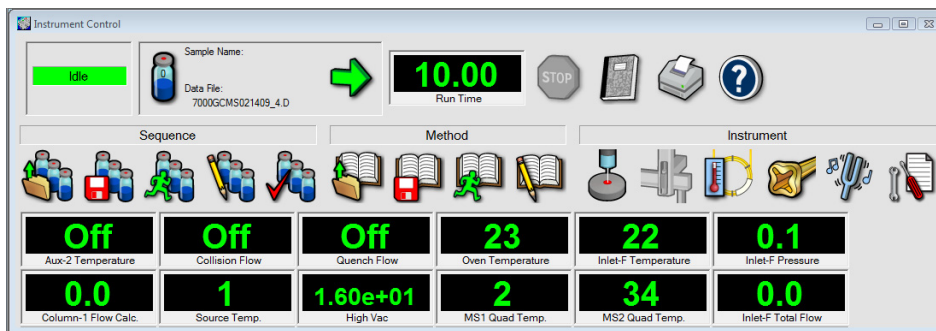

Figure 7 Arranging monitors
- 9 Select **Window > Arrange Plots and Monitors**, or click and drag each monitor to the desired position. See Figure 7 for one way of arranging the monitors.